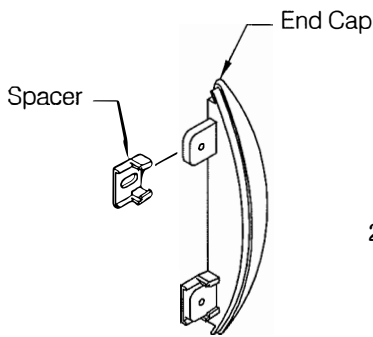
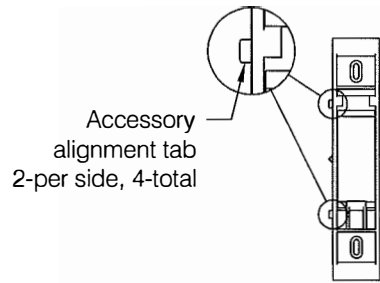
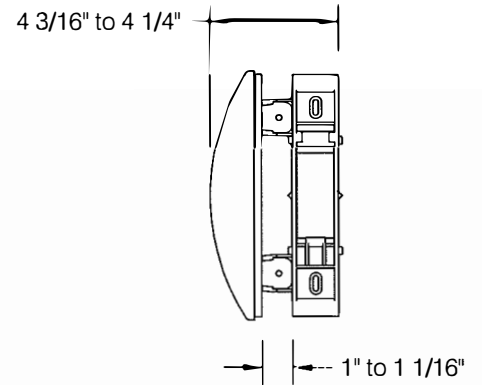

fig 4
fig 5
fig 6
- Step 3:** A Red-E-Clip[®] must be installed adjacent to each molded accessory. Begin by installing a spacer on each of the accessory mounting tabs, see **fig 4**. The Red-E-Clip[®] has four accessory alignment tabs used to facilitate positioning of the molded components with respect to the clip, see **fig 5**. Temporarily locate the accessory and Red-E-Clip[®] combination by holding them temporarily in their desired position. Remove the accessory and fasten the Red-E-Clip[®] in place. It is also possible to locate the clip by measuring 4 3/16" to 4 1/4" from the outer edge of the desired accessory location or 1" to 1 1/16" from the inner edge, see **fig 6**.